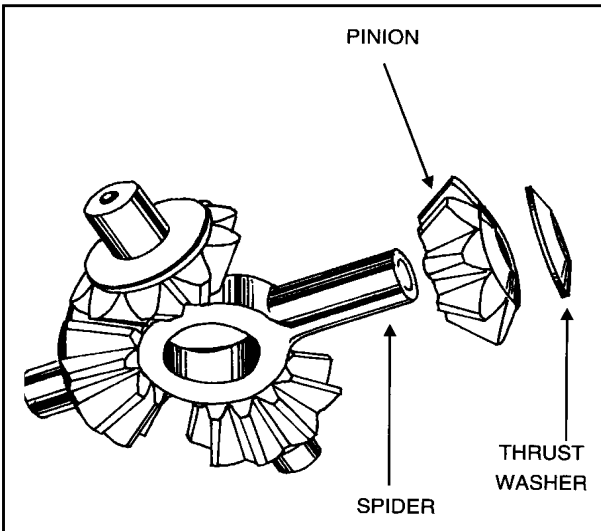

Figure 12
5. Remove the right-hand thrust washer, right hand side gear, spider and pinion assemblies, left-hand side gear and left-hand thrust washer. Refer Figure 12.